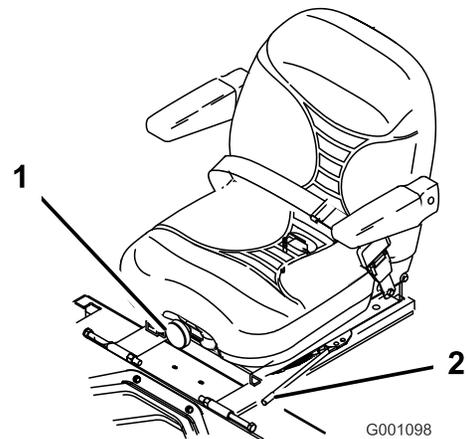

Figure 24
1. To adjust, move the lever sideways to unlock seat (Figure 24).
To adjust, turn the knob in front either direction to provide the best comfort (Figure 24).